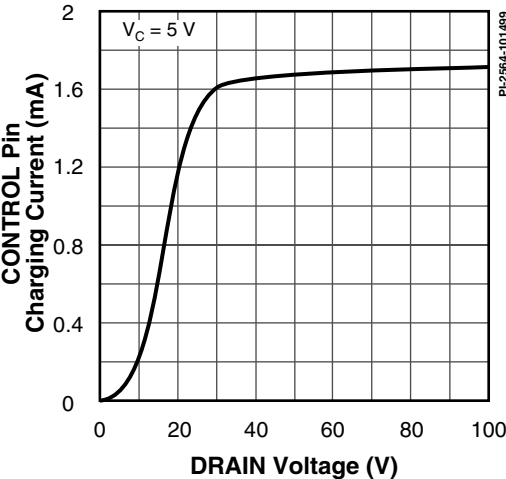

Figure 68. I_c vs. DRAIN Voltage.
- E. It is possible to start up and operate *TOPSwitch-GX* at DRAIN voltages well below 36 V. However, the CONTROL pin charging current is reduced, which affects start-up time, auto-restart frequency, and auto-restart duty cycle. Refer to Figure 68, the characteristic graph on CONTROL pin charge current (I_C) vs. DRAIN voltage for low voltage operation characteristics.